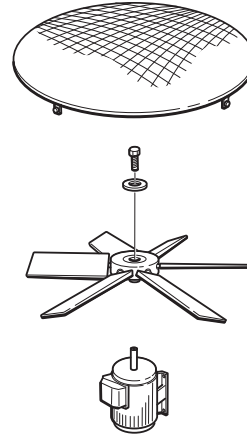

Figure 4. Fan impeller
- Figure 4. Release the screw and washer in the fan hub and pull off the impeller wheel. It may be necessary to use a puller.